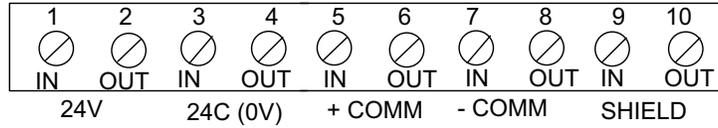

Figure 3. Terminating the COMM and Power Line
1. Terminate the annunciator's RUI communication and power lines (Figure 3).